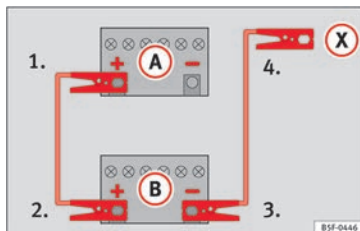

Fig. 189 Diagram of connections for vehicles without Start Stop system
2. Connect one end of the **red** jump lead to the positive (+) terminal of the vehicle with the flat battery (A) » » » **Fig. 189**.
3. Connect the other end of the **red** jump lead to the positive terminal (+) in the vehicle providing assistance (B).
4. **For vehicles without Start-Stop system:** connect one end of the **black** jump lead to the negative terminal (-) of the vehicle providing the current (B) » » » **Fig. 189**.